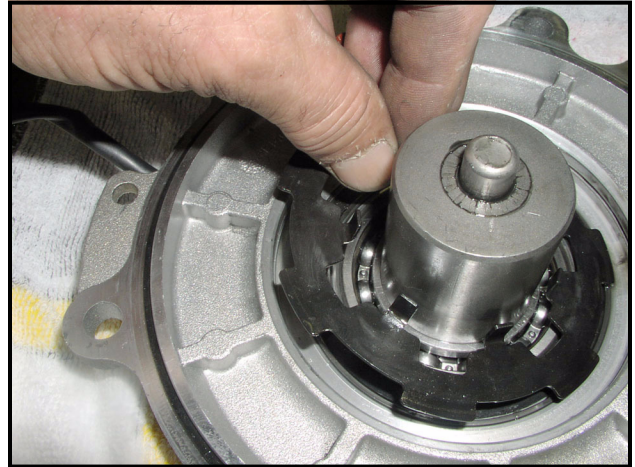

Figure 9-11 Armature Plate
5. Remove armature plate (**Figure 9-11, Page 9-5**).
2. Position armature plate around hub and bearing (**Figure 9-11, Page 9-5**). See following NOTE.